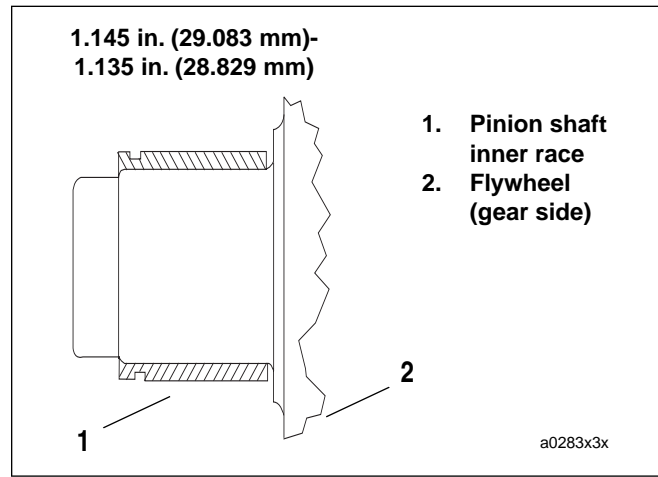

Figure 3-149. Inner Race Location
9. See Figure 3-149. Press **new** inner race on pinion shaft as shown. When the tool bottoms against the flywheel, correct inner race location is automatically established. The finished inner race must meet the specifications in Table 3-34.